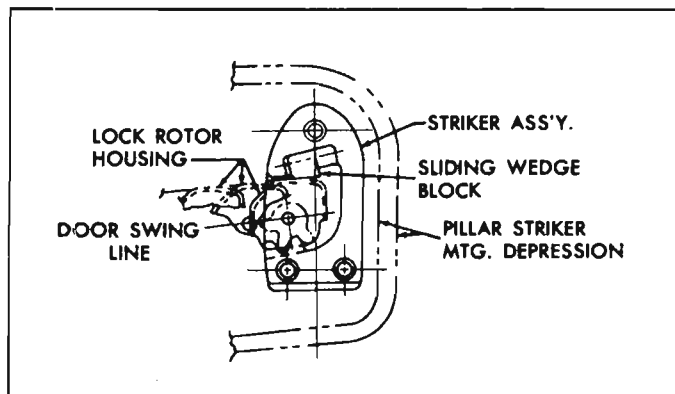

Fig. 10-42a—Lock Rotor Position in Striker
- b. Vertical adjustment—Position striker vertically so that the lock rotor and rotor housing swings smoothly into the opening between the striker gear teeth and the striker sliding wedge block (fig. 10-42a).